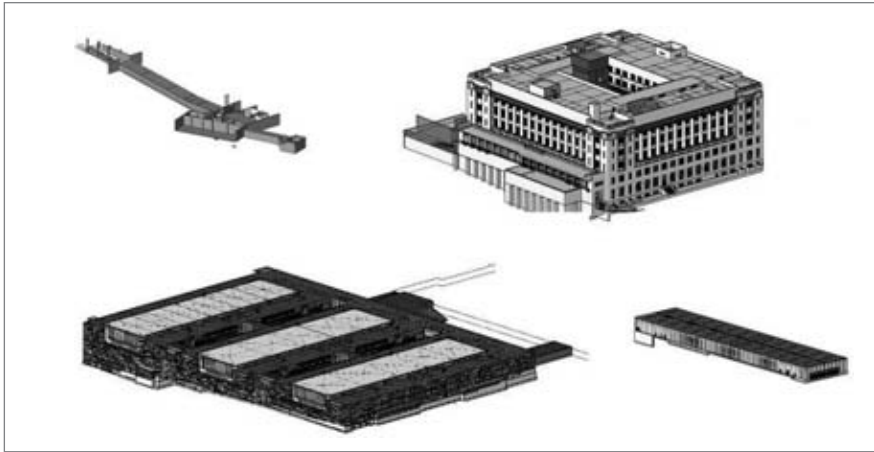

Figure 15.9
**Break up your model.** For larger projects, or campus-style projects, you can break up your model into smaller submodels that are referenced together. You can also do this on a single building. If you decide to divide your project, make your cuts along lines that make sense from a holistic-building standpoint. Don't think of the cuts as you would in CAD, but think about how the actual assemblies will interact in the building. As an example, don't cut between floors 2 and 3 on a multistory building unless you have a significant change in building form or program. Here's a list of some good places to split a model. See Figure 15.9 for an example: